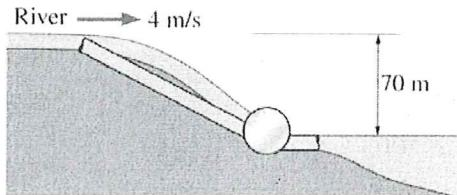

Figure 1
- Consider a river flowing toward a lake at an average speed of 4 m/s at a rate of 500 m³/s. The river bed is at a location of 70 m above the lake surface (figure 1). Determine the total mechanical energy of the river water per unit mass and the power generation potential of the entire river at that location.